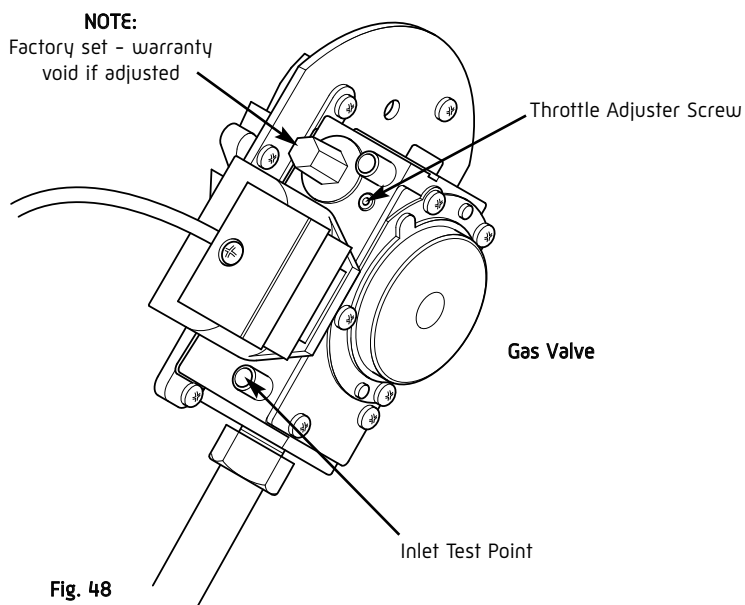

Fig. 48
5. If the Carbon Dioxide (CO2) level is outside the required values given in Section 12.2 (Table 2) then adjust the throttle screw (Fig. 48) until the CO2 is at the correct setting level. See Table 4. Clockwise to decrease CO2, anti-clockwise to increase CO2.